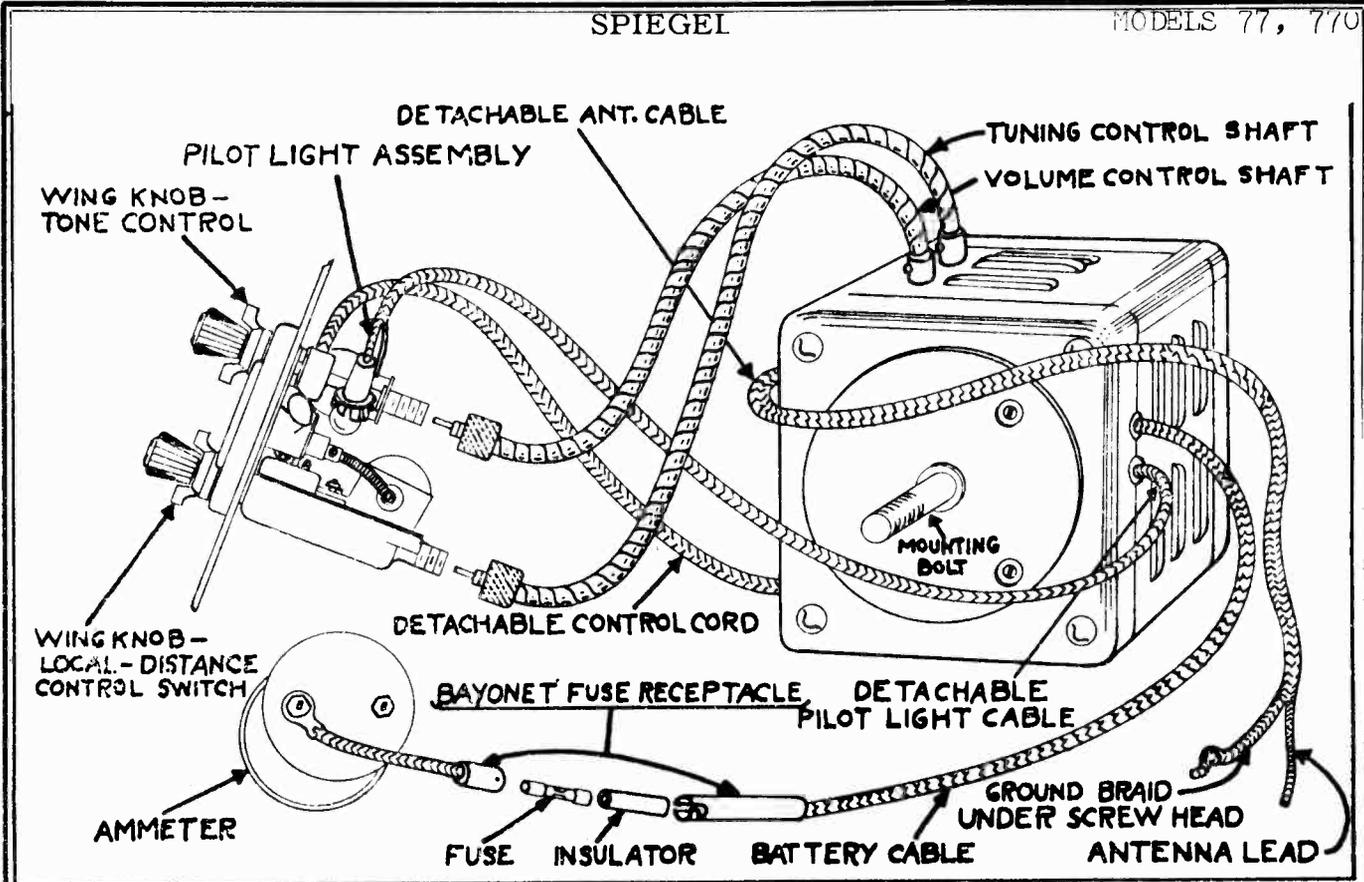

FIG. 8
4. **TONE CONTROL.** The tone control is located on the control plate and is operated by means of a wing type knob directly behind volume control knob as shown in Figure 8. When the knob is turned to the right, a brilliant tone is obtained, and when it is turned to the left, a deep bass tone is produced.
2. **TUBES.** The type of tubes used and location of these tubes in the chassis are shown in Fig. 8. These tubes are of a sturdy, rugged construction designed especially for an auto receiver. Most of them, under normal use, will last for many months and in some cases, years. Some of them, however, may become faulty after a few months of operation. For that reason it is advisable to secure a new set of tested tubes at intervals of three to six months and to have them inserted in the receiver one at a
Now, with the receiver and control units mounted, and with flexible shafts attached, the next step is to complete the wiring connections. Supplied with the receiver: (1) a shielded antenna lead-in with two prong plug attached; (2) a shield pilot light lead with slip-on pilot light head at one end and tip jack connector at the other end; (3) a battery lead with built-in replaceable fuse (4) detachable control cord with a two prong plug at one end for chassis connection. (See Fig. 8).
Three connections are necessary. First, the antenna must be hooked up to the receiver unit; second the pilot light must be in the control head; third, the battery cable must be connected to the ammeter. (See Fig. 8).
2. **PILOT LAMP CONNECTION.** Connect the pilot lamp cable at the chassis by inserting the pin tip connector into the receptacle on the side of the chassis case indicated in Figure 8. Push the fitting all the way down. Then insert the pilot lamp assembly into the receptacle at the back of the control unit as indicated in Figure 8. In some cases the cable supplied will not be long enough and an extra length cable may be fitted.
3. **BATTERY CABLE CONNECTION.** The battery connection is made at the ammeter. The end of the battery cable should be soldered to a lug and secured to one of the posts at the back of the ammeter in the instrument panel. The other end of the battery cable has a fuse receptacle with bayonet fitting. Insert the fuse shield and fuse into the receptacle and connect it to the bayonet pin connector in the end of the battery lead coming from the chassis case as shown in Figure 8.
4. **THE CONTROL CORD.** Connect the control cord at the chassis by inserting the 3 prong plug into the receptacle on the side of the chassis case as indicated in figure 8. Push the fitting all the way down.
THE CONTROL UNIT. The control unit supplied with this receiver is custom built for your car, employing either aeroplane or porthole type dial assembly, as engineered by the car manufacturer. The mounting of the control head is easily accomplished. Remove the ash receiver or the ornamental plate designed to accommodate the radio control unit. In few 1937 cars it will be necessary to remove the ash receiver and the plate. There is no sawing, drilling or filing necessary in preparing for installation. Now assemble the control unit as per instruction sheet enclosed in each control unit package and proceed to clamp to the dash. Once the receiver unit and control unit have been mounted into position, the flexible shafts should be connected in the manner clearly indicated in figure 8. Figure No. 8 also shows the proper battery, control cord, pilot light and antenna connections.